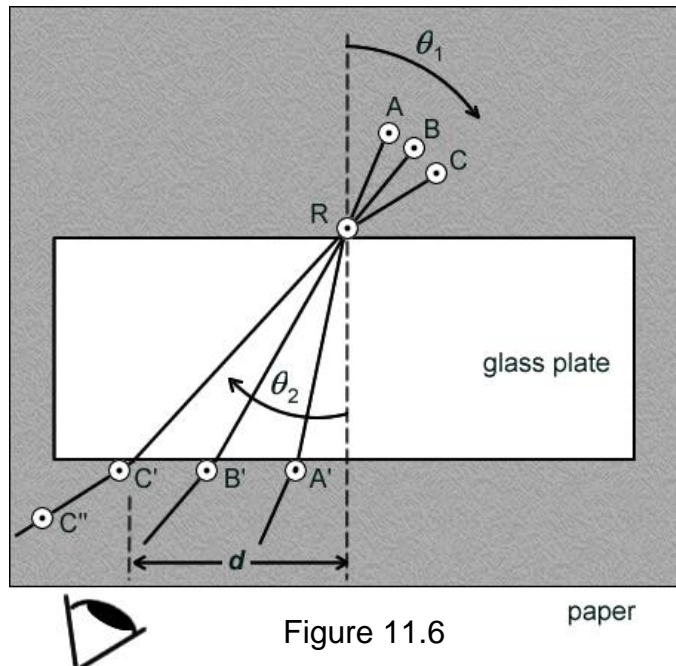

Figure 11.6
- Lay the glass plate in the center of a sheet of paper and outline its shape with a pencil. Draw a line normal to one of the sides of the plate, and place a pin (R) at the intersection of this line and the face of the plate. Measure an angle of 15° relative to this line, and place a pin (A) about 6 to 8 cm from the plate at this angle.
- Looking through the edge of the plate from the eye positions shown in Figure 11.6, place a pin (A') adjacent to the face of the plate so that it is aligned with R and A . Mark and label the locations of the pins.